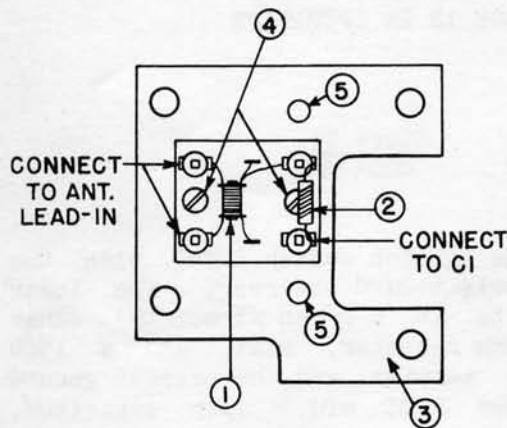
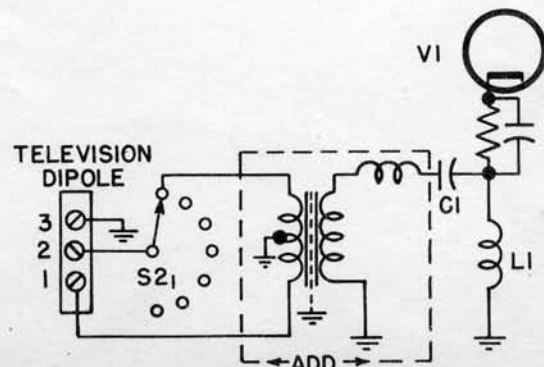

FIGURE 1
FIGURE 3
5. Assemble transformer (1) Stock No. RLA-033 to mounting plate (3), Stock No. RAP-008, using two #4-40 x 5/16" screws, nuts, and lockwashers. Solder choke (2), Stock No. RLI-037, as shown in schematic, Figure 3, and mechanically mount as shown in Figure 1. Also, fasten the two brass ground straps, removed in step (2), to the holes (5) shown in Figure 1, using two #4-40 x 5/16" screws, nuts, and lockwashers.
7. Solder C1 to choke as shown in Figures 1 and 3.
8. Re-connect antenna input transmission line to terminals as shown in Figure 1.